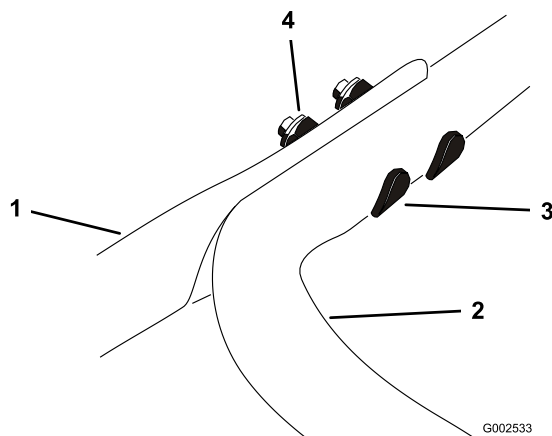

Figure 4
2. Install the upper handle onto the lower handle and secure the upper handle with 4 oval-head bolts, 4 washers, and 4 locknuts (Figure 4).